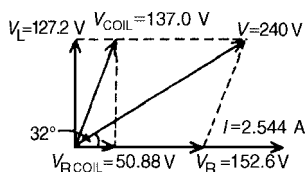

Figure 15.9
- (f) For the phasor diagram, shown in Fig. 15.9,
The 240 V supply voltage is the phasor sum of V_{COIL} and V_R as shown in the phasor diagram in Fig. 15.9